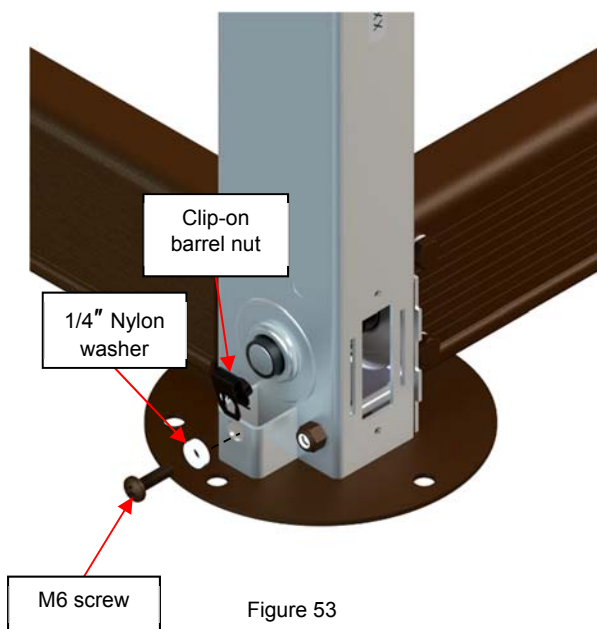

Figure 53
- 18) Install the clip-on barrel nuts at the bottom of the non-motor-side jack assemblies for the sleeves, using Phillips M6 x 20 mm screws and 1/4" nylon washers. Only the non-motor-side jack assemblies need clip-on barrel nuts installed. (Figure 53)